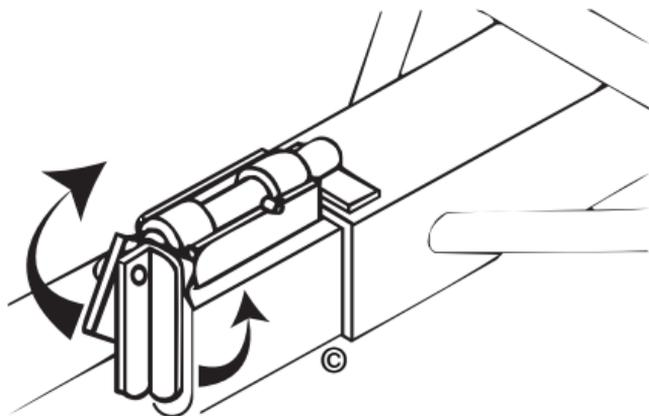

Figure 8
- ❑ If you have a tow dolly with tilt platform loading ramps (Figure 8), tilt the wheel platform back for loading. Swing the bottom of the locking latch toward the coupler far enough to allow locking pin handle to be lifted. Swing the locking pin handle upward then pull locking pin towards the coupler as far as it will go. Wheel platform will tilt back to allow loading.
- ❑ If you have a tow dolly with tilt platform loading ramps (Figure 8), slide platform-locking pin back into lock position.
- ❑ If you have a tow dolly with tilt platform loading ramps (Figure 8), swing the locking pin handle upward then toward the coupler. This will allow the platform to tilt as you drive off the tow dolly.